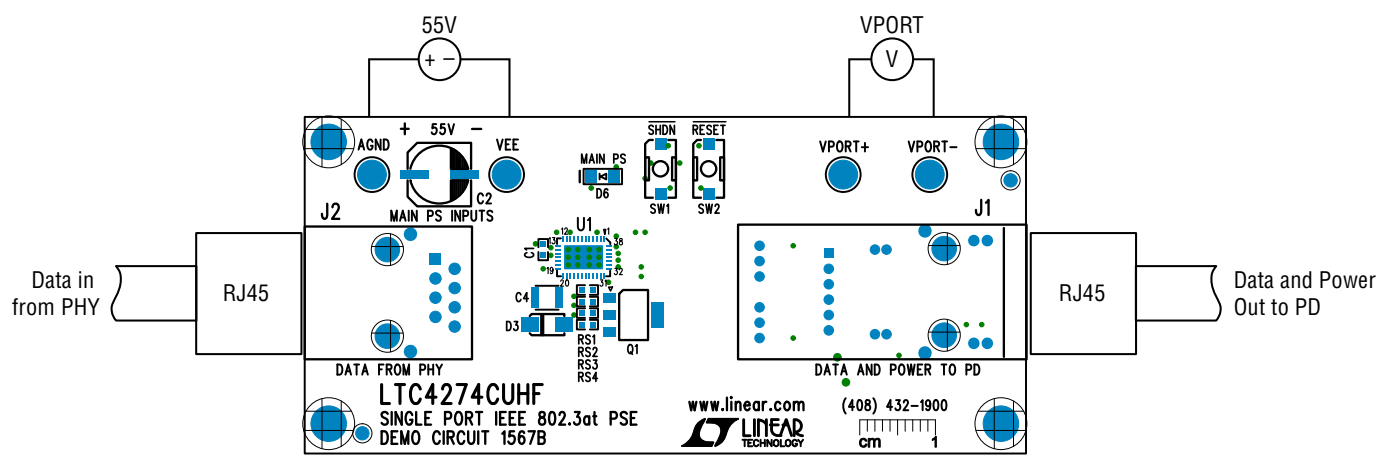

Figure 1. DC1567B Setup
QUICK START PROCEDURE (Figure 1)
1. Connect a 55V power supply across AGND and V_{EE} as shown in Figure 1.
IEEE 802.3at requires that a Type 2 PSE output at the port between 50V to 57V. To meet this requirement, it is recommended to supply a nominal 55V across AGND and V_{EE} on the DC1567B as shown in Figure 1. Main PS LED indicates the input power supply is powering the LTC4274.